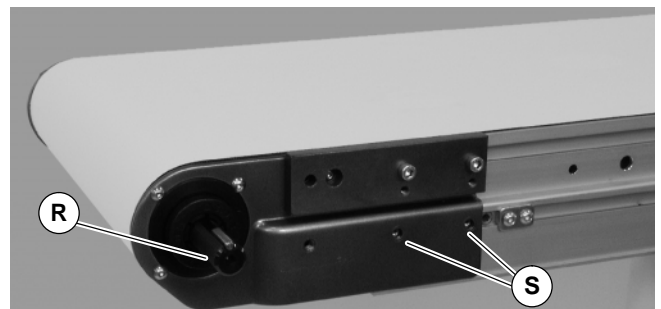

Figure 5
3. Locate drive output shaft (R of Figure 5) and remove screws (S).